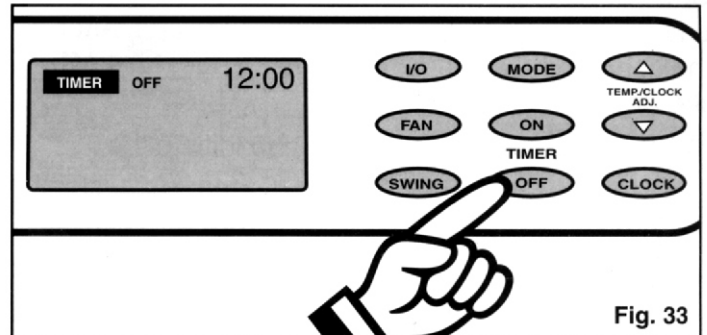
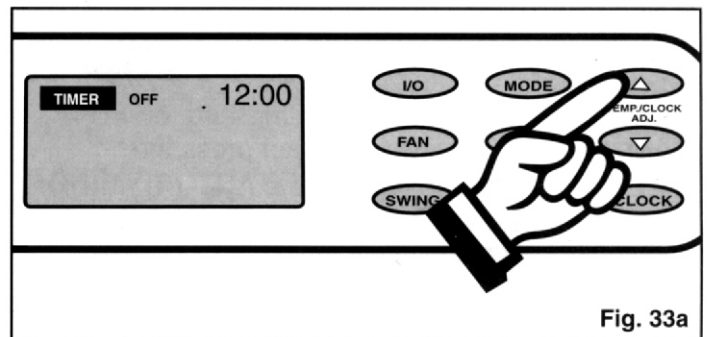

Fig. 33
Fig. 33a
- 2) Press the **TIMER-OFF** key pad to initiate the **AUTO-OFF** time sequence. *Fig. 33*. The display window will indicate **TIMER-OFF** and the word **OFF** will flash for 5 seconds. Press the  $\Delta$  or  $\nabla$  key pad to select the desired **AUTO-OFF** time. *Fig. 33a*.
- 2) Press the **AUTO-OFF** key pad to initiate the **AUTO-OFF** time sequence. (Fig. 33). The display window will indicate **TIMER-OFF** and the word **OFF** will flash for 5 seconds. Press the  $\Delta$  or  $\nabla$  key pad to select the desired **AUTO-OFF** time. (Fig. 32a).